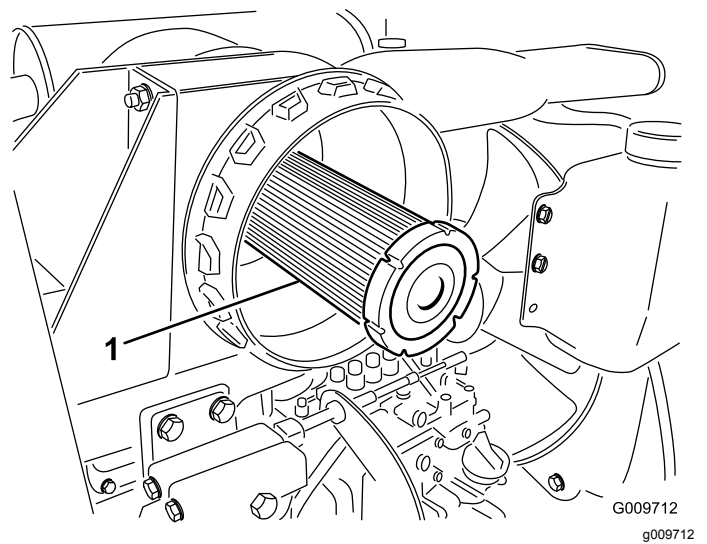

Figure 77
**Important:** Never attempt to clean the safety filter (Figure 77). Replace the safety filter after every 3 primary filter services.